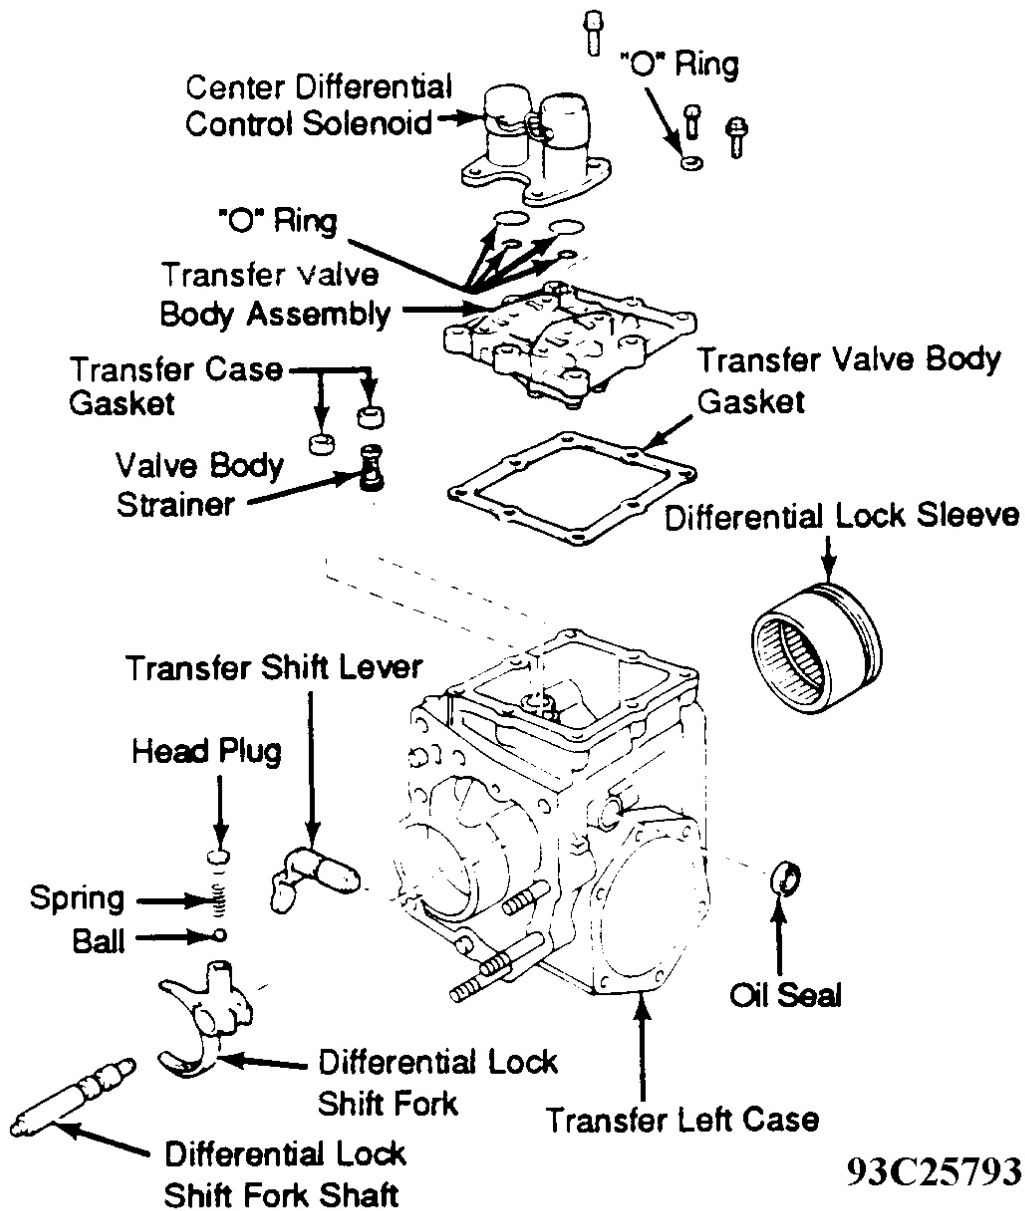

Fig. 53: Exploded View Of Transfer Left Case
1. On A-241H, remove differential control clutch pressure apply tube. On both models, remove center differential control solenoid(s). Remove "O" rings from solenoid(s). See **Fig. 53**.